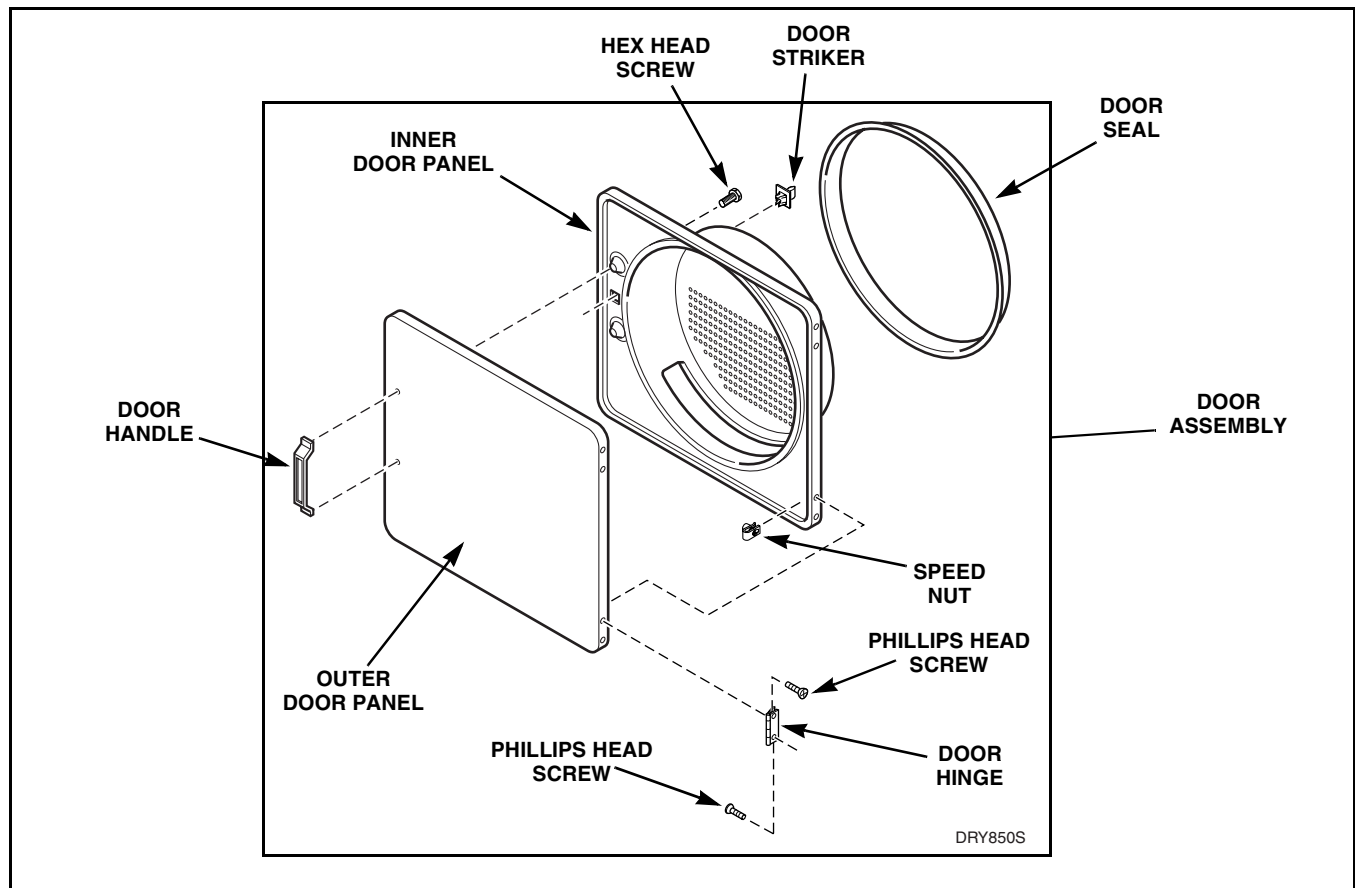

Figure 11
- Remove screws holding handle to door and separate panels. Refer to *Figure 11*.
Refer to *Figure 11*